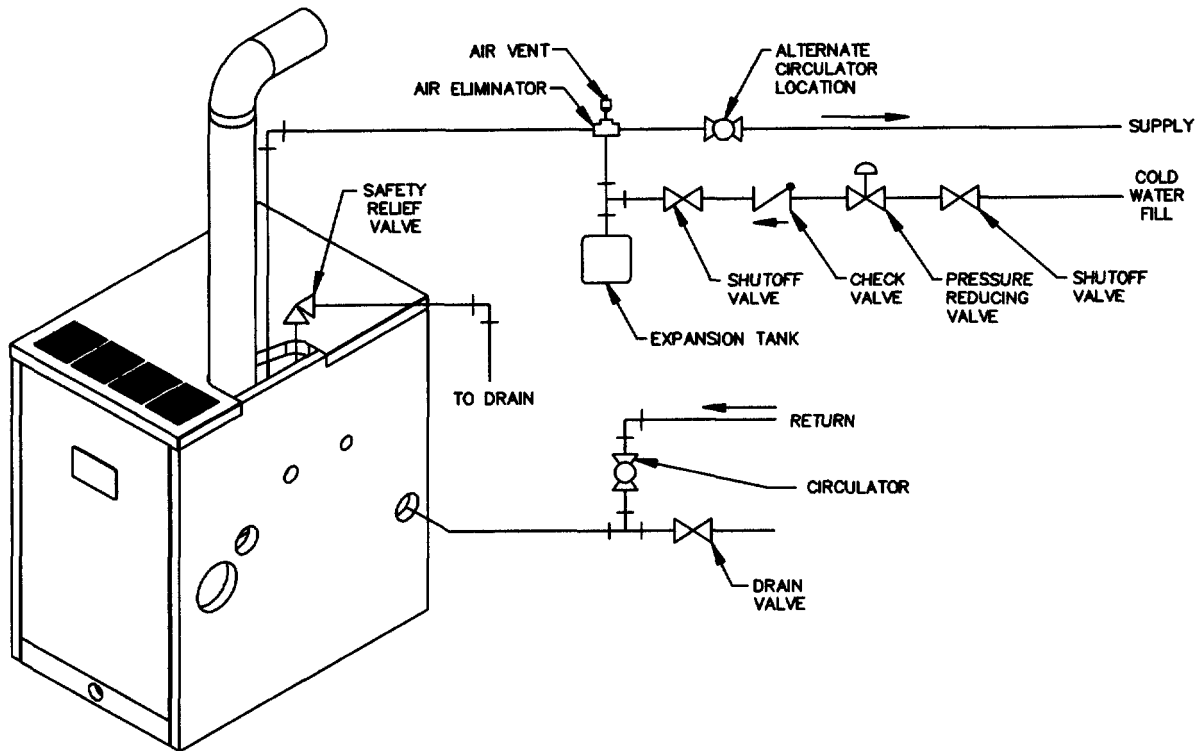

Figure 1: Supply and Return Piping
Refer back to Figure 1 for typical expansion tank piping.
1. Size the supply and return to suit the system. A typical piping arrangement is shown in Figure 1. Refer also to the Hydronics Institute Residential Hydronic Heating Installation Design Guide and the PB Heat Water Survey for additional guidance during water piping installation.
5. If desired, install the circulator in the alternate location shown in Figure 1. Consult the PB Heat Water Survey for more information on circulator location.